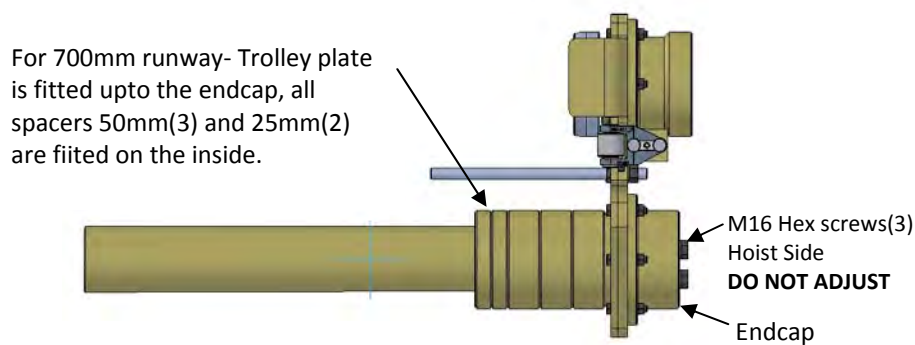

Figure 22 – Trolley Plate Assembly fitted for 700mm runway
- If the runway is 700mm refit the Trolley Plate Assembly upto the endcap, and fit the spacers on the inside, see Figure 22.
- Refit the complete Trolley Plate Assembly 'Hoist Side' including the axle and spacers (see Figure 22) into the hoist beam, use D shackle hole for suitable lifting equipment (Weight-150 kg).